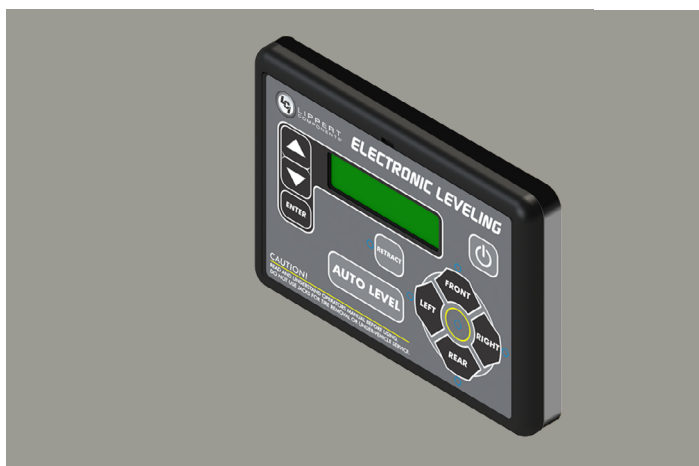

Fig.20
4. Plug the touch pad harness (Fig.19A) into the connector on the back of the touch pad face plate (Fig.19B) and snap the face plate into the bezel (Fig.20).